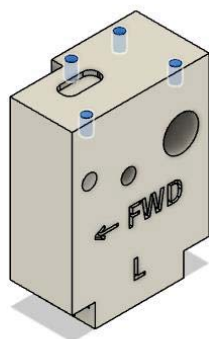

Figure 0-1
- 4 holes at the top of the left block. Refer to Figure 0-1